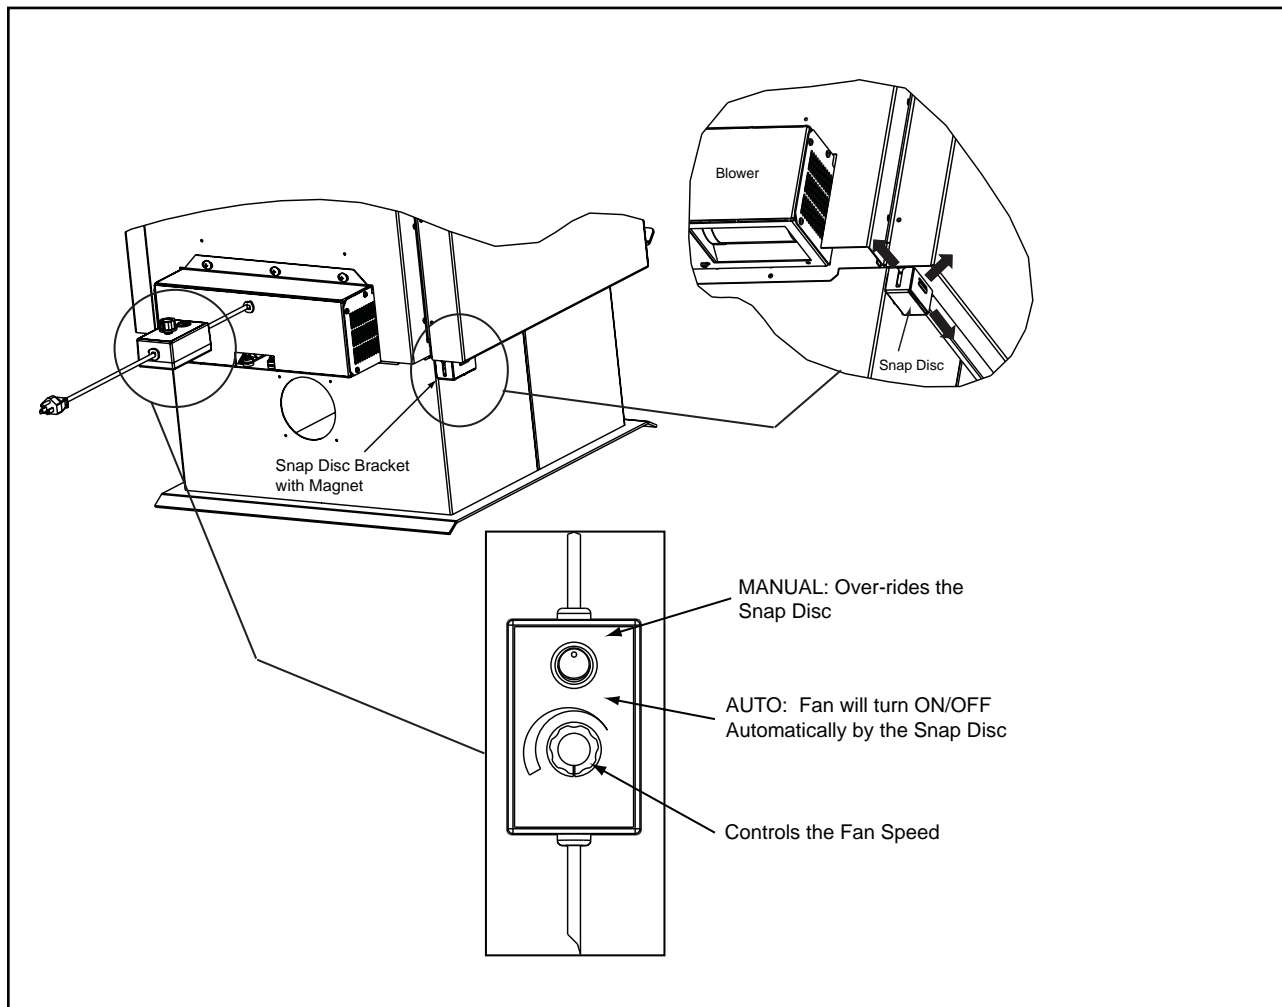

Figure 41.1
1. Align holes in mounting flange of blower with bolt holes in appliance. Blower should be positioned at bottom of rear outer skin as shown in **Figure 41.1**.
- 3 Place the bracket containing the snap disc and magnet under the bottom left rear corner as shown in **Figure 41.1**.